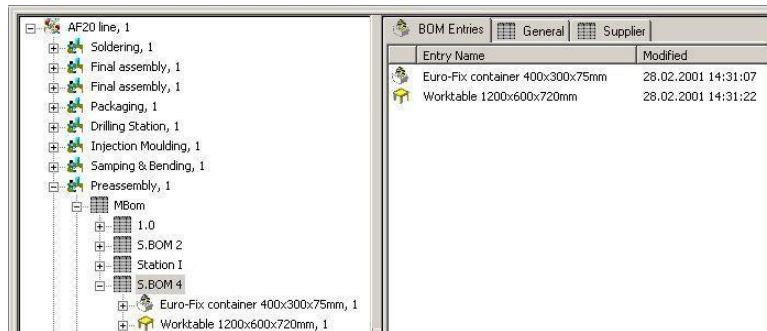

Figure 92: New Bill of Materials Structure
- 2) Click **OK** button. The new bill of materials with the two selected objects will be displayed in the new structure. *Please refer to the Figure 92.*